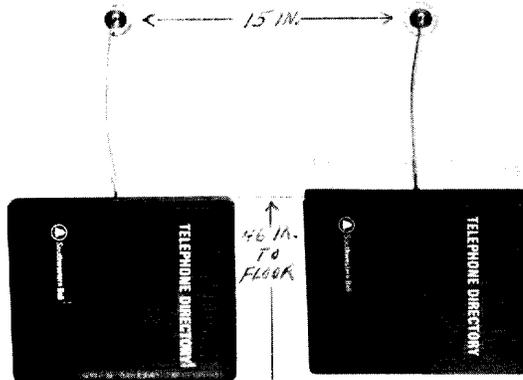

Figure 2
- Outside panels of wood booths (Figure 2).
- Wall surfaces with the use of backboards. Install in the same manner shown in Figure 2.
- (g) Install the hanger as shown in Figure 2.